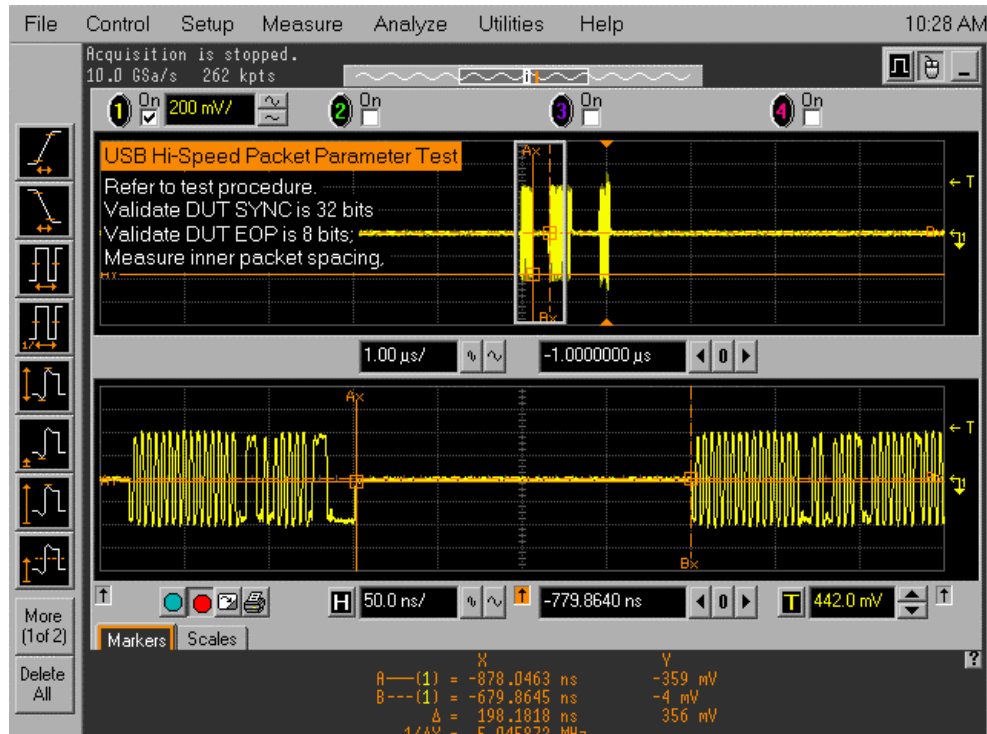

Figure 70. EL_23 host inter-packet gap waveform
5. After the **SOFs** sending is complete the host initiates the setup phase of the **GetDescriptor()** command. The host sends **SETUP** and **DATA** (first and second packet), then the device sends an **ACK**. You should see the transmitted test packet on the oscilloscope as shown in Figure 70. Click on **OK** to close the Test Instruction dialog.